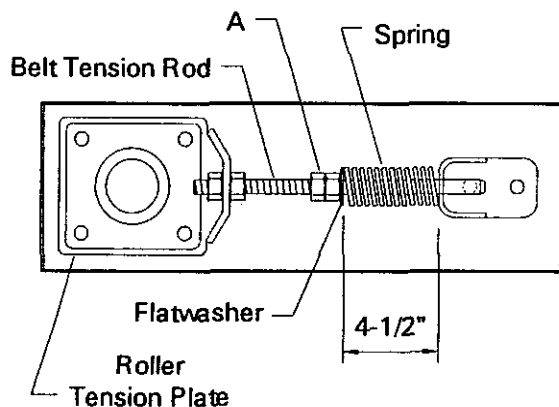

Figure 11
CONVEYOR BELT INSTALLATION/TENSION (Fig. 11 & 12)
CONVEYOR BELT and PULLEY ALIGNMENT (Fig. 11 & Fig. 13)
7. Use the spring tension nuts (A) to set the tension of the belt. Hold 4-1/2" overall spring length. See Fig. 11.